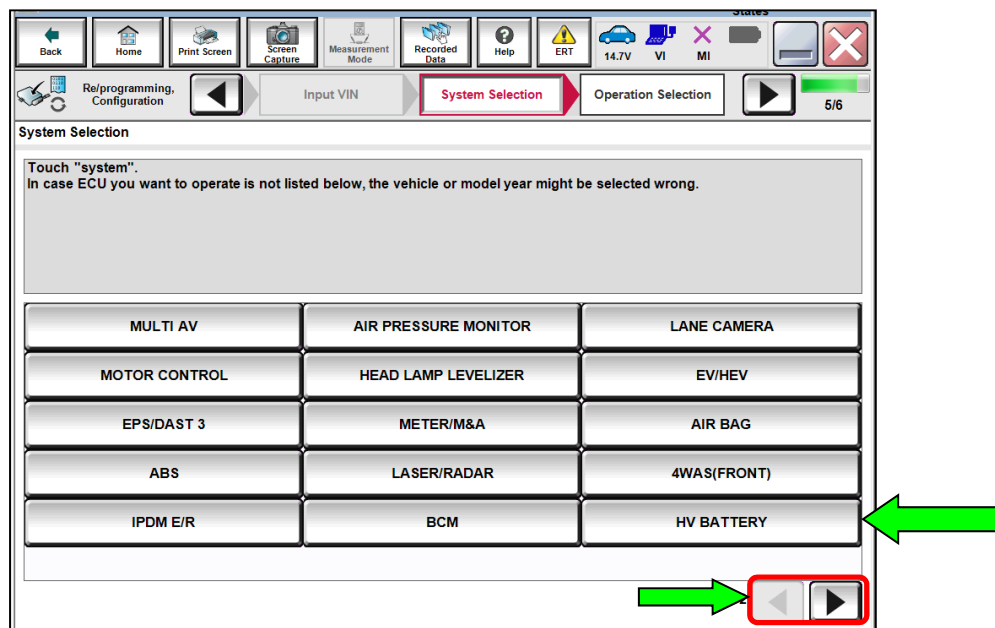

Figure 28
- When performing step 18 on page 6, use the arrow keys as needed to select **HV BATTERY** (Figure 28).